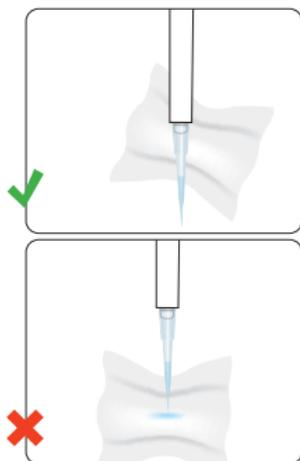

Figure 9. Removing Droplets on the Tip
▶ Before dispensing, carefully remove droplets on the outside of the tip with a lint-free cloth, being sure to stay clear of the tip opening. (figure 9)
▶ Before dispensing, carefully remove any droplets on the outside of the tip with a lint-free cloth, making sure to avoid the tip opening. (figure 9)